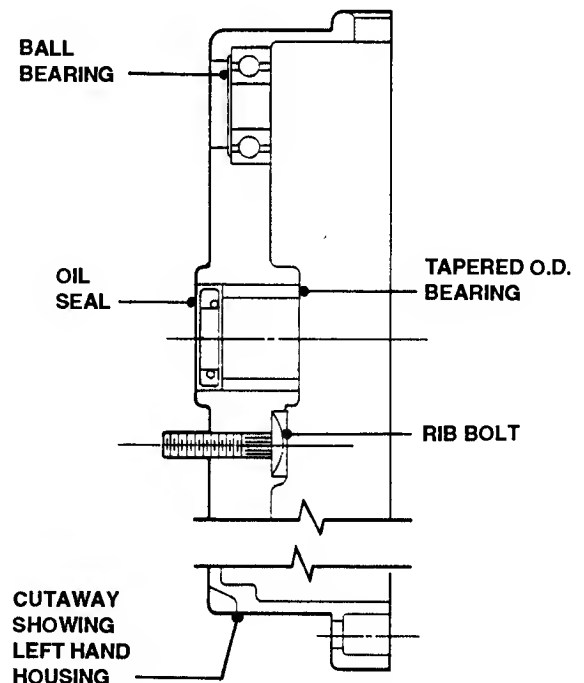

FIGURE 5.14
- (a) Drive tapered O.D. axle bearings out of housings from the INSIDE. See Figure 5.14.
- (e) Drive old rib bolts in Left Housing out toward the INSIDE, preferably using a plastic mallet. Install new rib bolts from kit. Refer to Figure 5.14.